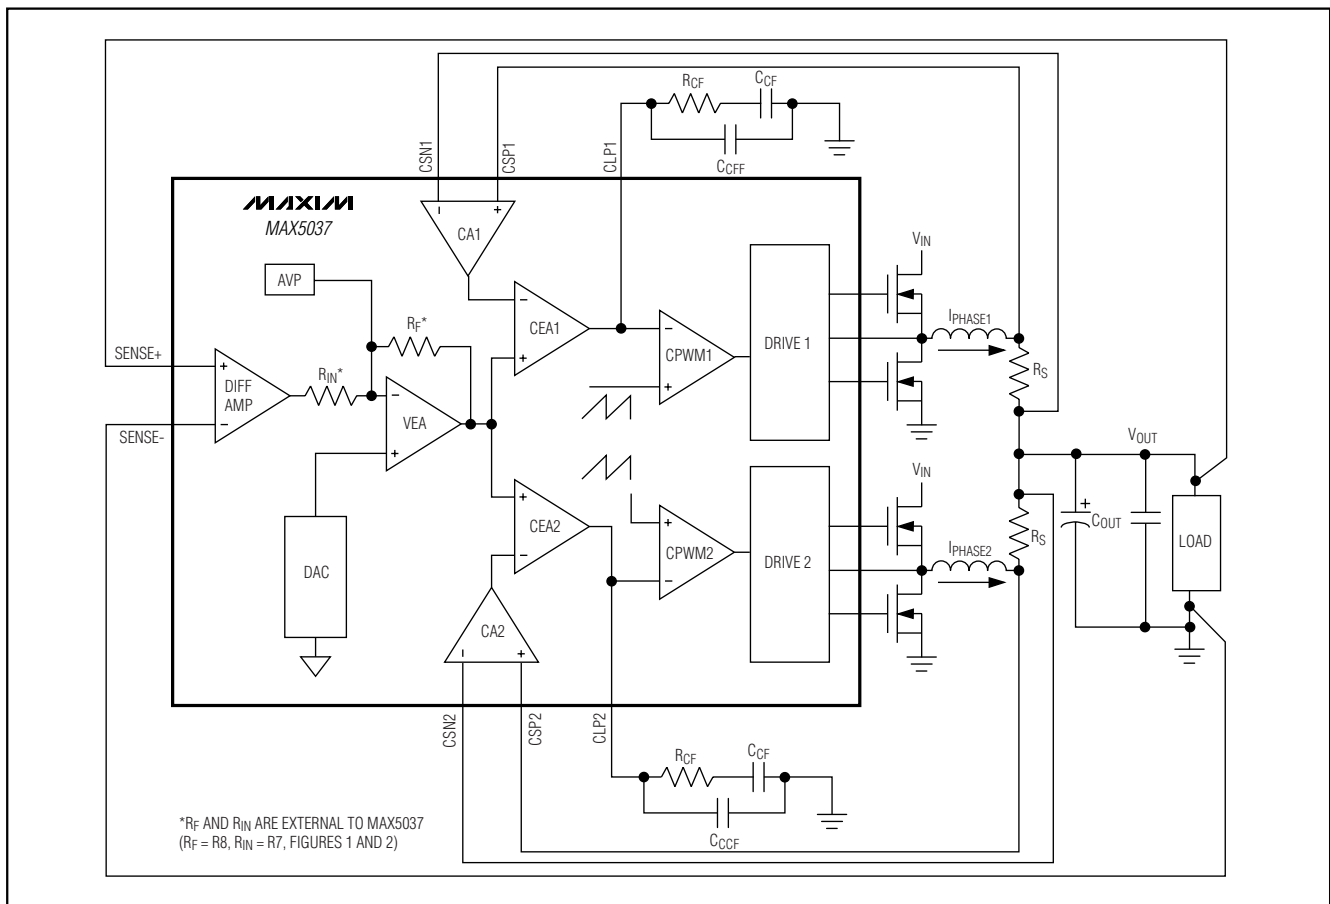

Figure 3. MAX5037 Control Loop
The MAX5037 uses an average current-mode control scheme to regulate the output voltage (Figure 3). The main control loop consists of an inner current loop and an outer voltage loop. The inner loop controls the output currents (IPHASE1 and IPHASE2), while the outer loop controls the output voltage. The inner current loop absorbs the inductor pole reducing the order of the outer voltage loop to that of a single-pole system.
The outer voltage control loop consists of the differential amplifier (DIFF AMP), adaptive voltage-positioning (AVP) block, digital-to-analog converter (DAC), and voltage-error amplifier (VEA). The unity-gain differential amplifier provides true differential remote sensing of the output voltage. The differential amplifier output and the AVP connect to the inverting input (EAN) of the VEA. The noninverting input of VEA is internally connected to the DAC output. The VEA controls the two inner current loops (Figure 3). Use a resistive feedback network to set the gain of the VEA as required by the adaptive voltage-positioning circuit.
Each phase of the MAX5037 has a dedicated transconductance current-error amplifier (CEA\_) with a typical  $g_m$  of 550 $\mu$ S and 320 $\mu$ A output sink and source current capability. The CEA\_ outputs, CLP1 and CLP2, serve as the inverting input to the PWM comparator. CLP1 and CLP2 are externally accessible to provide frequency compensation for the inner current loops (Figure 3). Compensate CEA\_ such that the inductor current down
The unity-gain differential amplifier (DIFF AMP) facilitates the output voltage remote sensing at the load (Figure 3). It provides true differential output voltage sensing while rejecting the common-mode voltage errors due to high-current ground paths. Sensing the output voltage directly at the load provides accurate load voltage sensing in high-current environments. The VEA provides the difference between the differential amplifier output (DIFF) and the desired VID programmed output voltage. The differential amplifier has a unity-gain bandwidth of 3MHz. The difference between SENSE+ and SENSE- regulates to the programmed VID output voltage.
The VEA output clamps to 0.9V relative to  $V_{CM}$  (0.6V), thus limiting the average maximum current from individual phases. The maximum average current-limit threshold for each phase is equal to the maximum clamp voltage of the VEA divided by the gain (18) of the current-sense amplifier. This results in accurate settings for the average maximum current for each phase. Set the VEA gain using  $R_F$  and  $R_{IN}$  for the amount of output voltage positioning required within the rated current range as discussed in the *Adaptive Voltage Positioning* section (Figure 3).